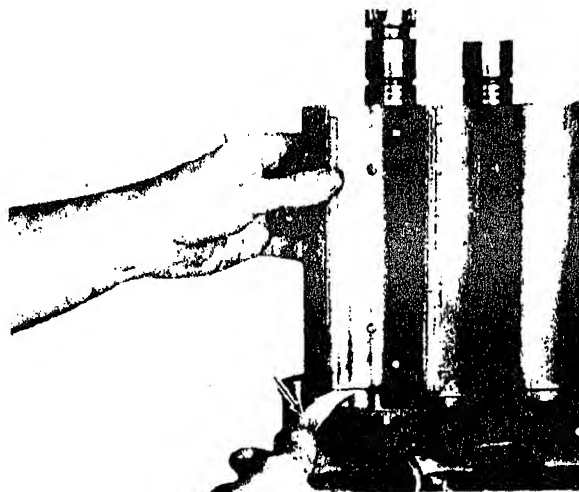

Fig. 10-4-11. Checking rotor end clearance
13. Position expansion plugs (27) on locknuts and tap place.
14. Push rotors toward gear end plate and check end clearance. Fig. 10-4-11. End clearance should be 0.003 in. [0.762 to 0.1016 mm]. Add or remove shims under mounting cage flange to obtain correct end clearance. If shims must be changed, remove locknuts and gears described in disassembly instructions.